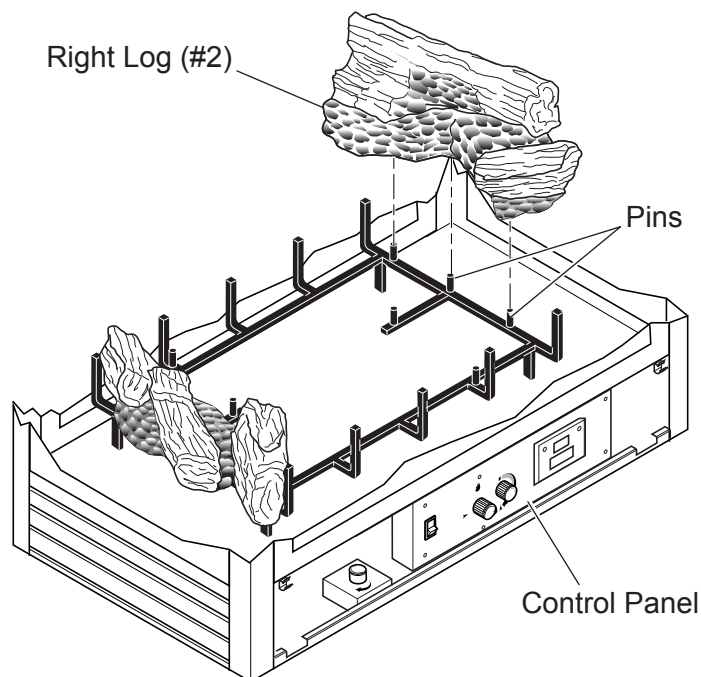

Figure 44 - Installing Right Log (#2)
4. Place right log (#2) on right end of grate. Line up three (3) pin holes in bottom of log with three (3) pins on grate. *See Figure 44.*